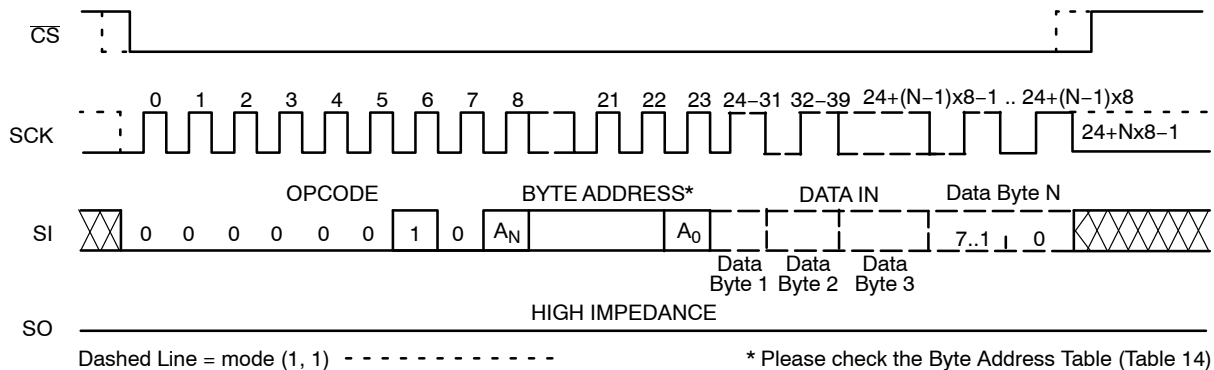

Figure 6. Page WRITE Timing
After sending the first data byte to the CAT25128, the host may continue sending data, up to a total of 64 bytes, according to timing shown in Figure 6. After each data byte, the lower order address bits are automatically incremented, while the higher order address bits (page address) remain unchanged. If during this process the end of page is exceeded, then loading will “roll over” to the first byte in the page, thus possibly overwriting previously loaded data.
The additional 64-byte Identification Page (IP) can be written with user data using the same Write commands sequence as used for Page Write to the main memory array (Figure 6). **The IPL bit from the Status Register must be set (IPL = 1) using the WRSR instruction, before attempting to write to the IP.**